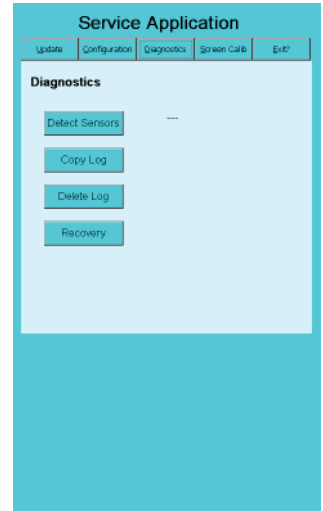

Figure 165 - Diagnostics Panel
4. Select the Diagnostics tab (Figure 165), then select the function that best suits your needs. See the descriptions that follow for more information.